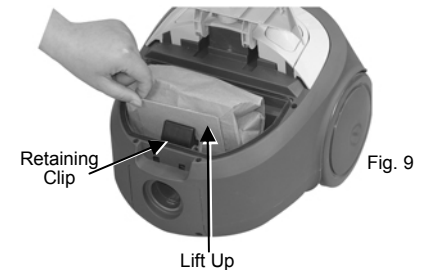
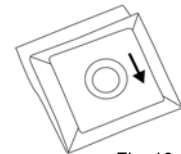

Fig. 9
Fig. 10
- To open the dust bag compartment, lift up the cover locking tab. (Fig. 9)
- Insert a new dust bag back into the dust bag support guide inside the bottom of the dust bag compartment making sure that the dust bag rubber seal is aligned correctly against the air intake hole on the unit. (Fig. 9) When inserting the new dust bag, make sure that the arrow on the bag is pointing down. (Fig. 10)